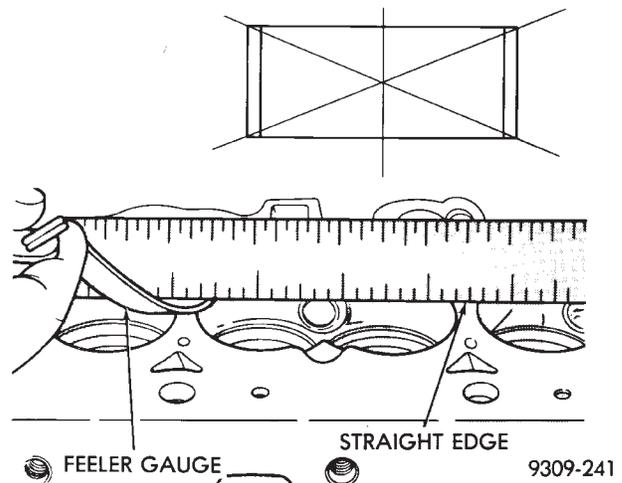

Fig. 14 Checking Cylinder Head Flatness
(1) Cylinder head must be flat within 0.1mm (.004 inch) (Fig. 14).
(2) Inspect camshaft journals for scoring and journal caps for oversize markings. When servicing cylinder head or camshaft, it is necessary to be certain